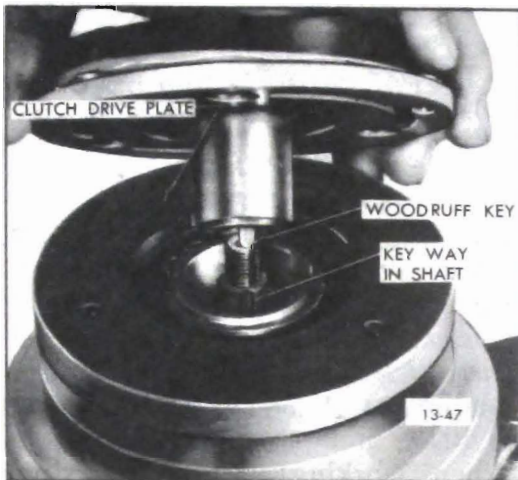

Figure 13-70 Positioning Clutch Drive Plate on Shaft
9. Insert woodruff key into hub of clutch drive plate so that it projects out approximately 3/16 inch (see Figure 13-70) and position clutch drive plate onto shaft.